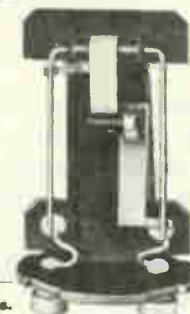

Fig. 7
- b. Thermal Starter, Figs. 7, 8, & 9. - This type includes a resistance element which carries the filament current and is heated by this current. The heater element heats a bi-metallic thermostat blade and causes this blade to bend and open the filament connection after the filaments have been heated enough to glow.